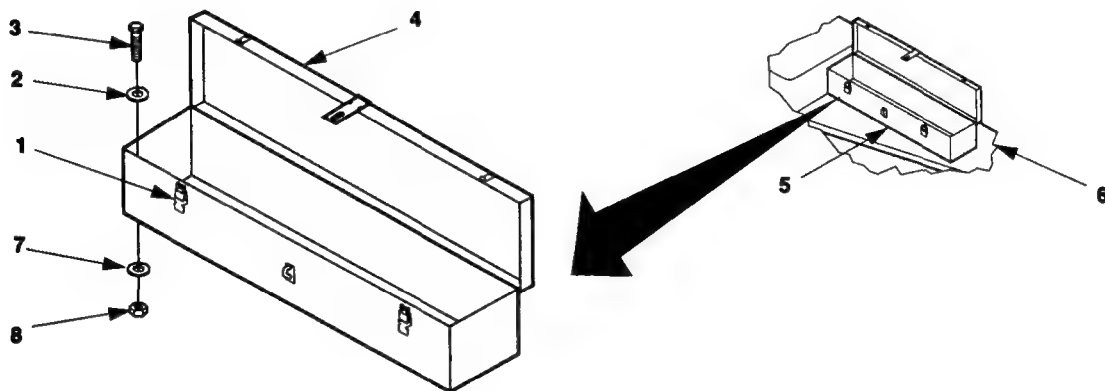

Figure 4-17. Accessory Box Replacement.
1. Release clamping catches 1, figure 4-17 and open accessory box cover (4).
2. Remove any stored accessories from accessory box (5).
3. Remove five self-locking nuts (8), flat washers (2 and 7), and bolts (3) that secure accessory box (5) to trailer chassis (6).
4. Lift accessory box (5) off trailer chassis (6).